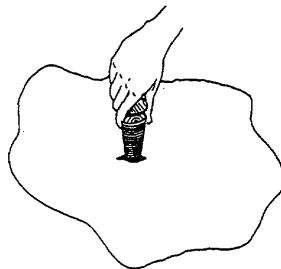

Figure 2-2. Installation of wood plug.
- (2) Emergency repairs with wooden plugs (refer to figure 2-2).